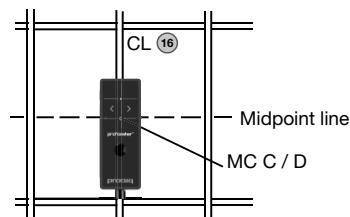

Figure 9: Optimal probe position
- Position the probe cart at the start line in an optimum position (see Figure 9, the MC **C / D** at the mid line of the rebars running parallel to the moving direction, both rectangles in 16 are of equal size).
NOTE! It is advisable to locate the first and second layer rebars with the Locating Mode to find the optimum line position prior to measuring with the Multi-Line Mode (see Figure 9). "Align Rebar Position" should only be set, if all rebars are running parallel to the start line (Y-axis). For large areas it is advisable not to set "Return to start on new line" and to measure the lines alternatively start to end, back from end to start.
- Position the probe cart at the start line in an optimum position (see Figure 9, the MC C / D at the mid line of the rebars running parallel to the moving direction, both rectangles in 16 are of equal size).